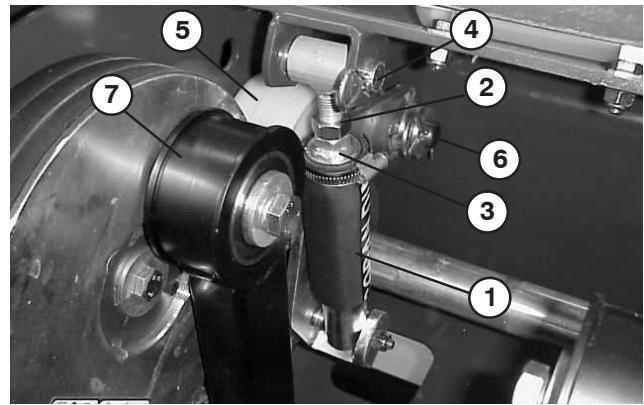

Figure 32
1. Loosen jam nut securing idler tube to tensioner arm (Fig. 32).
2. Rotate hex on top of idler arm until all spring tension is removed (Fig. 32).
3. Remove hair pin cotter and idler pin securing top of spring assembly to frame (Fig. 32).
4. Remove hair pin cotter securing idler pulley assembly to idler shaft (Fig. 32). Remove idler assembly from shaft.
5. Remove screw, lock washer and flat washer securing top of tine arm to pulley (Fig. 32).